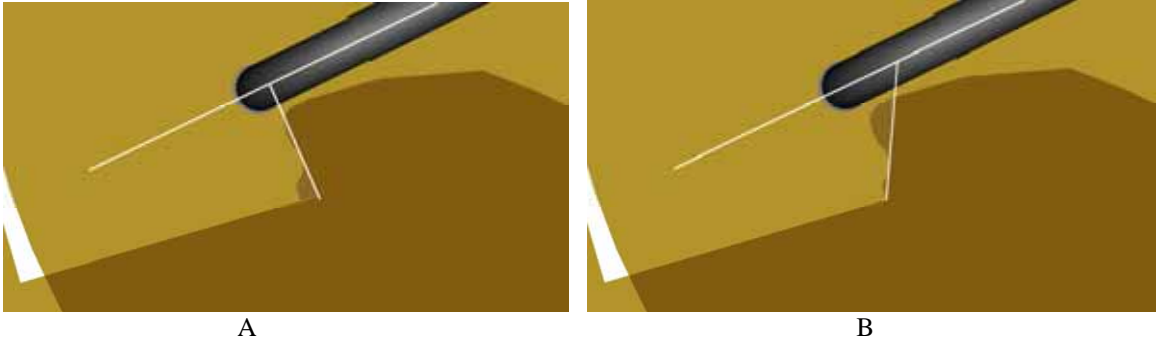

Figure 36
The top surface of the stop/maintenance cam (I), although not showing any visible wear, should also be nicely polished. This will provide the least friction for the rubbing surfaces. Special attention should be paid to the stop face in the notch of the stop/maintenance cam (I). This face will develop an indentation due to the hammering action of the stop/maintenance lever (B) as it arrests the strike train. If left as is, the indentation may trap the lever and not allow the strike train to be released. Another condition frequently found is in the upper edge of the notch no longer being square and sharp but tipped round. This is caused by the stop/maintenance lever (B) being out of adjustment and tipping off the top edge of the stop face of the notch as the lever passes during the strike process. A rounded edge will cause the stop/maintenance lever (B) to be bounced out of the notch and result in a run-on condition. It will usually be necessary to file this stop face to correct these conditions but care should be given to the angle at which the face is filed as well as how much material is removed. (See figure 36.) If there is more than one notch in the stop/maintenance cam (I) it will be necessary to ensure that they are treated *exactly* the same. If not, the stop points will be different causing the degree of warning to vary and resulting in “hammer on the rise” or a hammer lever (G) that doesn’t quite drop off of the hammer pin before stop occurs.